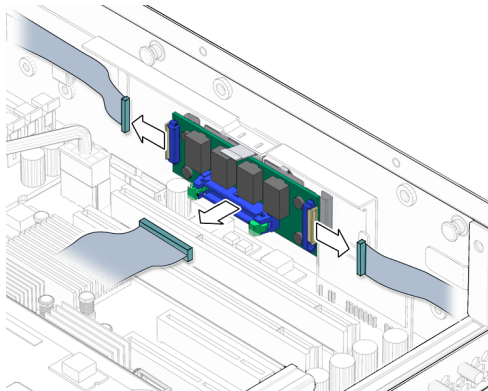

FIGURE 5-18 Disconnecting the Cables From the Alarm Board
2. **Disconnect the cables from the alarm board at the following connectors (FIGURE 5-18):**